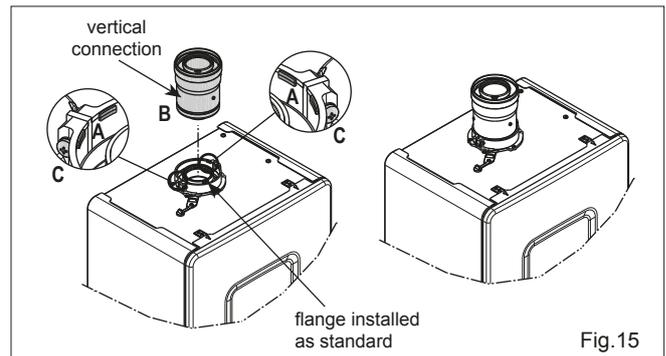

Fig. 15
**NOTE - fig. 15:** the appliance incorporates a 'click-fit' flue connection. Ensure that both screws 'C' on the 'click-fit' have been slacked off. Ensure that the connector is correctly aligned with the 'click-fit' and insert it into the 'click-fit' until it clicks into position (this is when the tabs at points 'A' are located in the groove of the vertical flue connector). Both screws (C) should now be tightened.